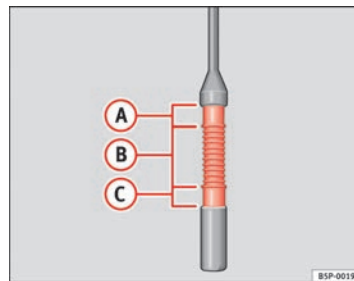

Fig. 164 Engine oil dipstick.
- Then pull it out once more and check the oil level ⇒ page 230, fig. 164. Top up with engine oil if necessary.